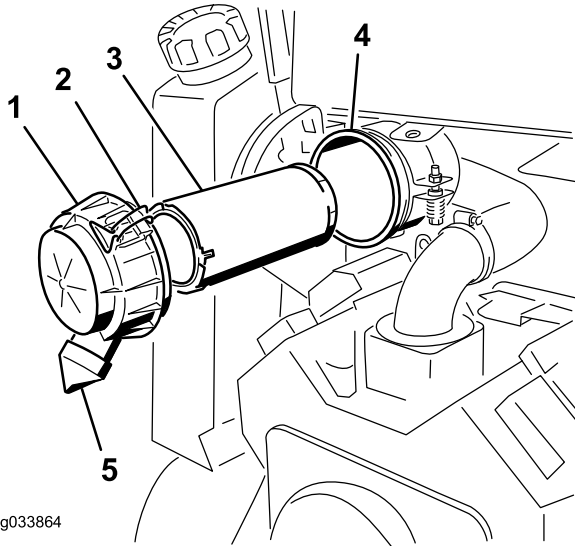

Figure 30
**Important:** Service the air cleaner filter only when the service indicator shows red (Figure 30). Changing the air filter before it is necessary only increases the chance of dirt entering the engine when the filter is removed.
4. Release the latches on the air cleaner and pull the air cleaner cover off of the air cleaner body (Figure 30).
1. Gently slide the primary filter out of the air cleaner body (Figure 30). Avoid knocking the filter into the side of the body.
3. Carefully slide the primary filter into the air filter body (Figure 30). Ensure that it is fully seated by pushing on the outer rim of the filter while installing it.
4. Install the air cleaner cover with the side indicated as UP facing up and secure the latches (Figure 30).